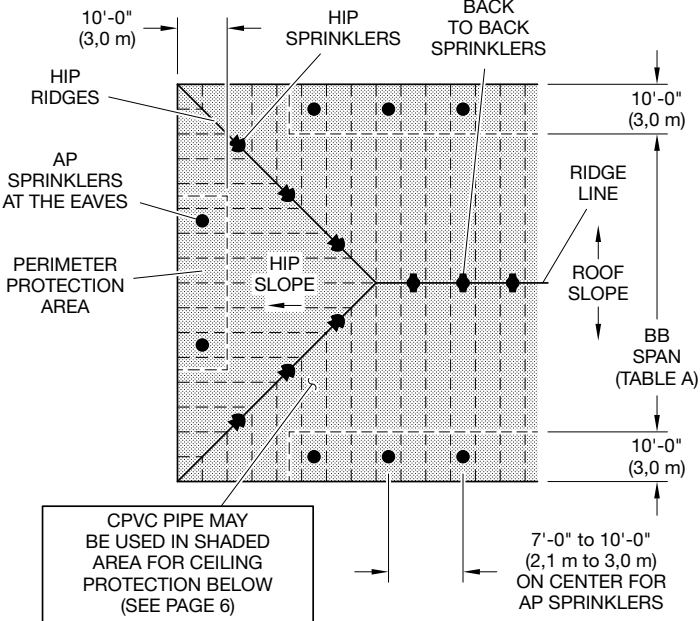

FIGURE 15
- For hip roof construction (refer to Figure 15), use 8.0K, BB Sprinklers in the center portion and HIP Sprinklers can be located down the entire hip. AP Sprinklers or Standard Spray Sprinklers are then used to protect up to 10 ft (3,1 m) of width at the eaves beyond the maximum allowable 60 ft (18,3 m) span of the 8.0K, BB Sprinklers, and the maximum allowable horizontal coverage of the HIP Sprinklers.